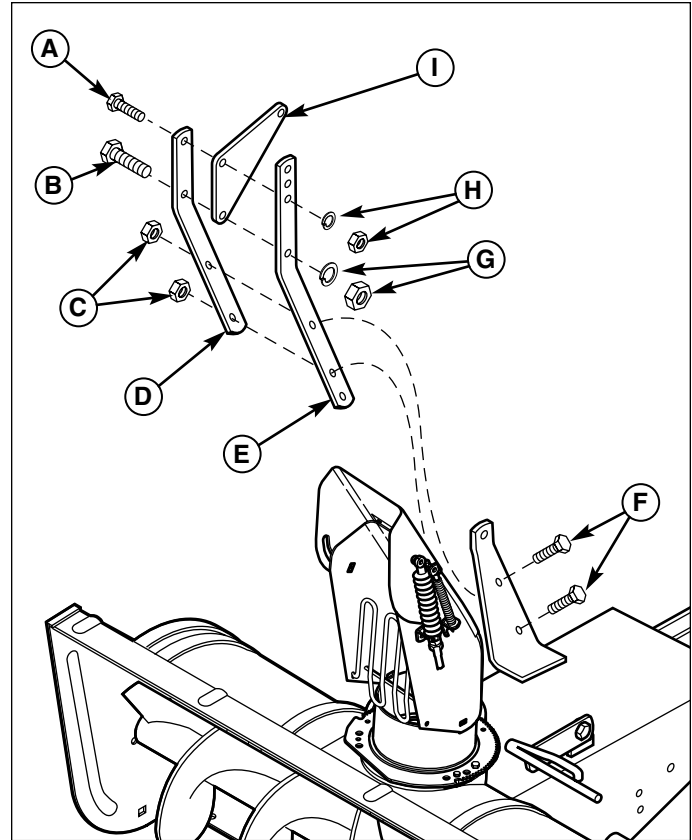

Figure 8. Install Lift Arm Support
2. Install the lift extension (I, Figure 8) and lift arm reinforcement (D). Secure to the snowthrower and original lift arm (E) using the new hardware shown in Figure 8.
2. Turn the steering wheel fully to the right. Secure the front of the hitch to the J-hooks using the hitch rod (A).
4. Install the lift lever extension (B).
5. Install the lift rod and attachment (Figure 8).